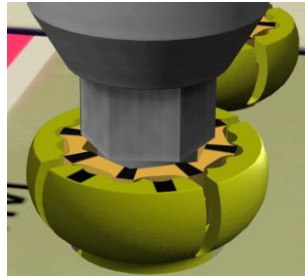

fig. 35
- Be sure that the hex of the Driver is fully engaged into the Bone Screw (fig. 35).